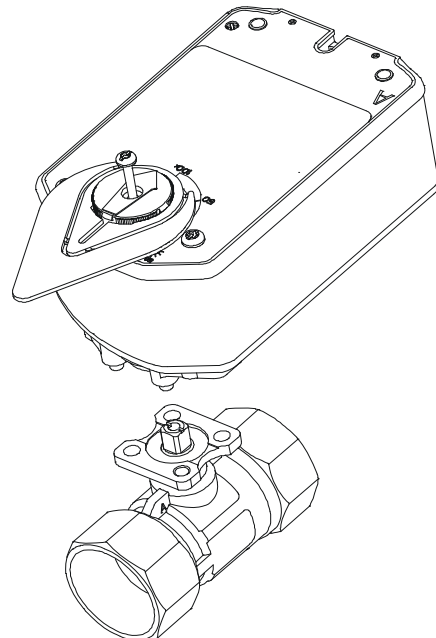

Figure 9: Mount the actuator
7. Install the actuator on the ball valve (Figure 9). Tighten the actuator mounting screw to a torque of 10 to 12 lb·in. (1.1 to 1.4 N·m) and snap in the large adjustable pointer into place.